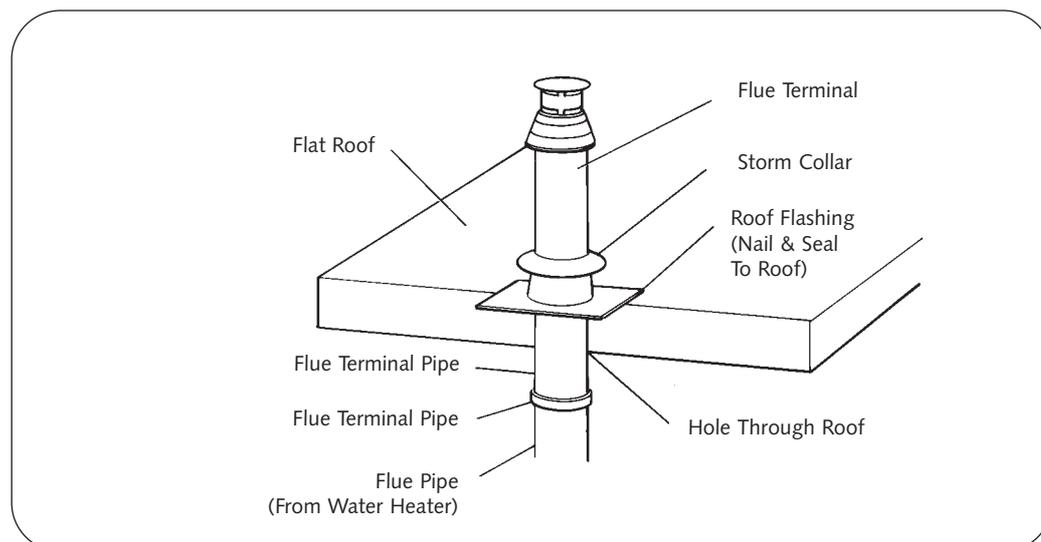

Fig 7.
- c) Cut a minimum 165mm (6.5in) diameter hole for the smaller flue size or a 216mm (8.5in) minimum diameter hole for the larger flue size centred in the desired location for the roof terminal. See Fig. 7.